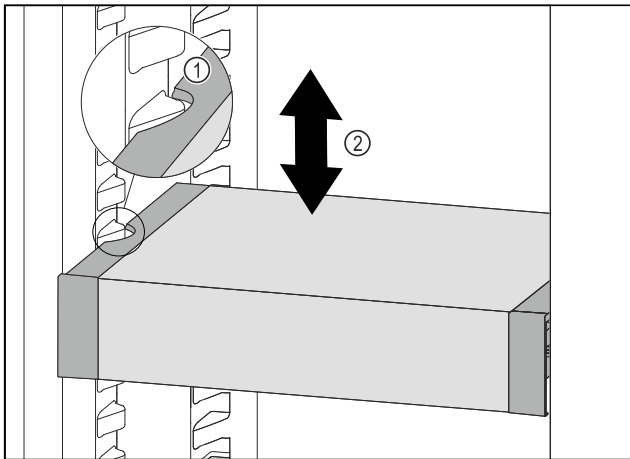

Fig. 57
- ▶ Pull VarioSafe forwards until the recesses in the side of the VarioSafe are at the level of the support rib in the refrigerator compartment. *Fig. 57 (1)*
- ▶ Move VarioSafe up or down in the refrigerator compartment until the desired height is reached. *Fig. 57 (2)*